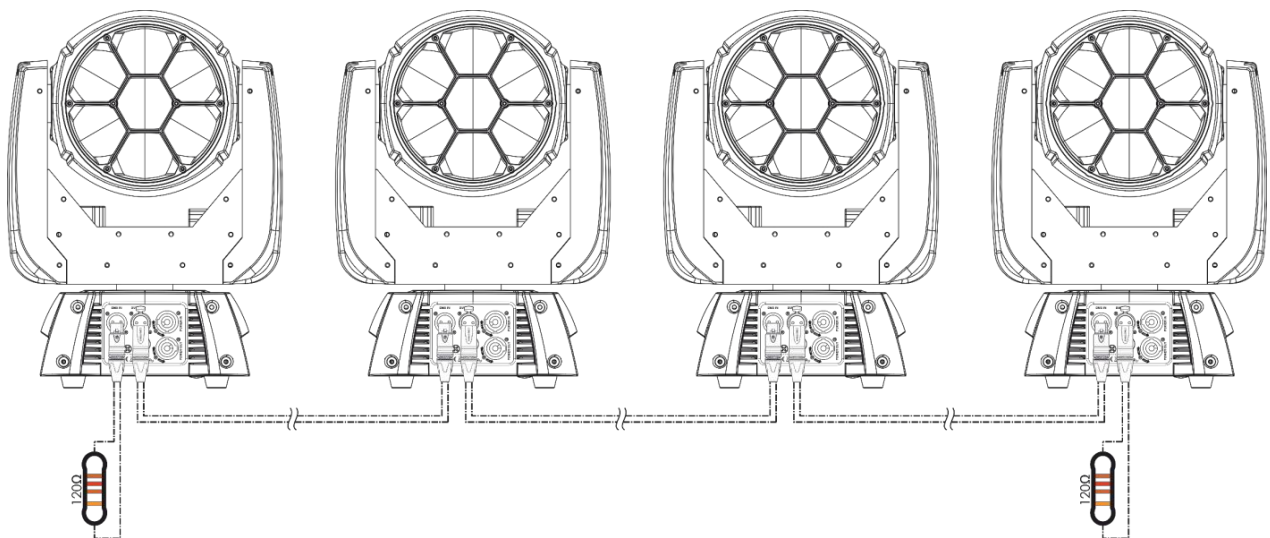

Fig. 04
- 05) Link the units as shown in fig. 04. Connect a DMX signal cable from the first unit's DMX "out" socket to the second unit's "in" socket. Repeat this process to link the second, third and fourth units. You can use the same functions on the master device as described on page 19 (Built-in Programs). This means that you can set your desired operation mode on the master device and all slave devices will react the same as the master device.